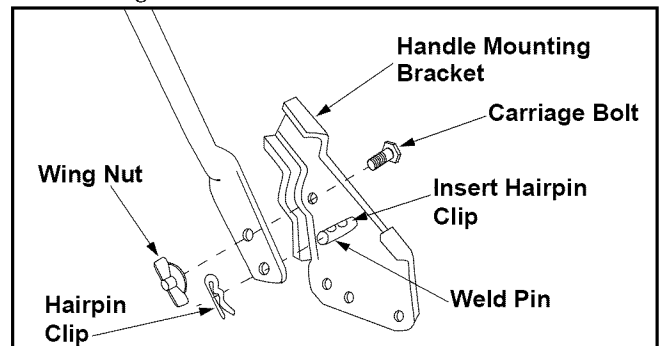

Figure 5
- Using a pair of pliers, insert the hairpin clip into the inner hole in the weld pin. Repeat on the other side. See Figure 5 .
- After moving the hairpin clip, insert the carriage bolt from hardware pack in the upper hole on the handle mounting bracket and secure with plastic wing nut from the hardware pack. Repeat on other side. See Figure 5 .